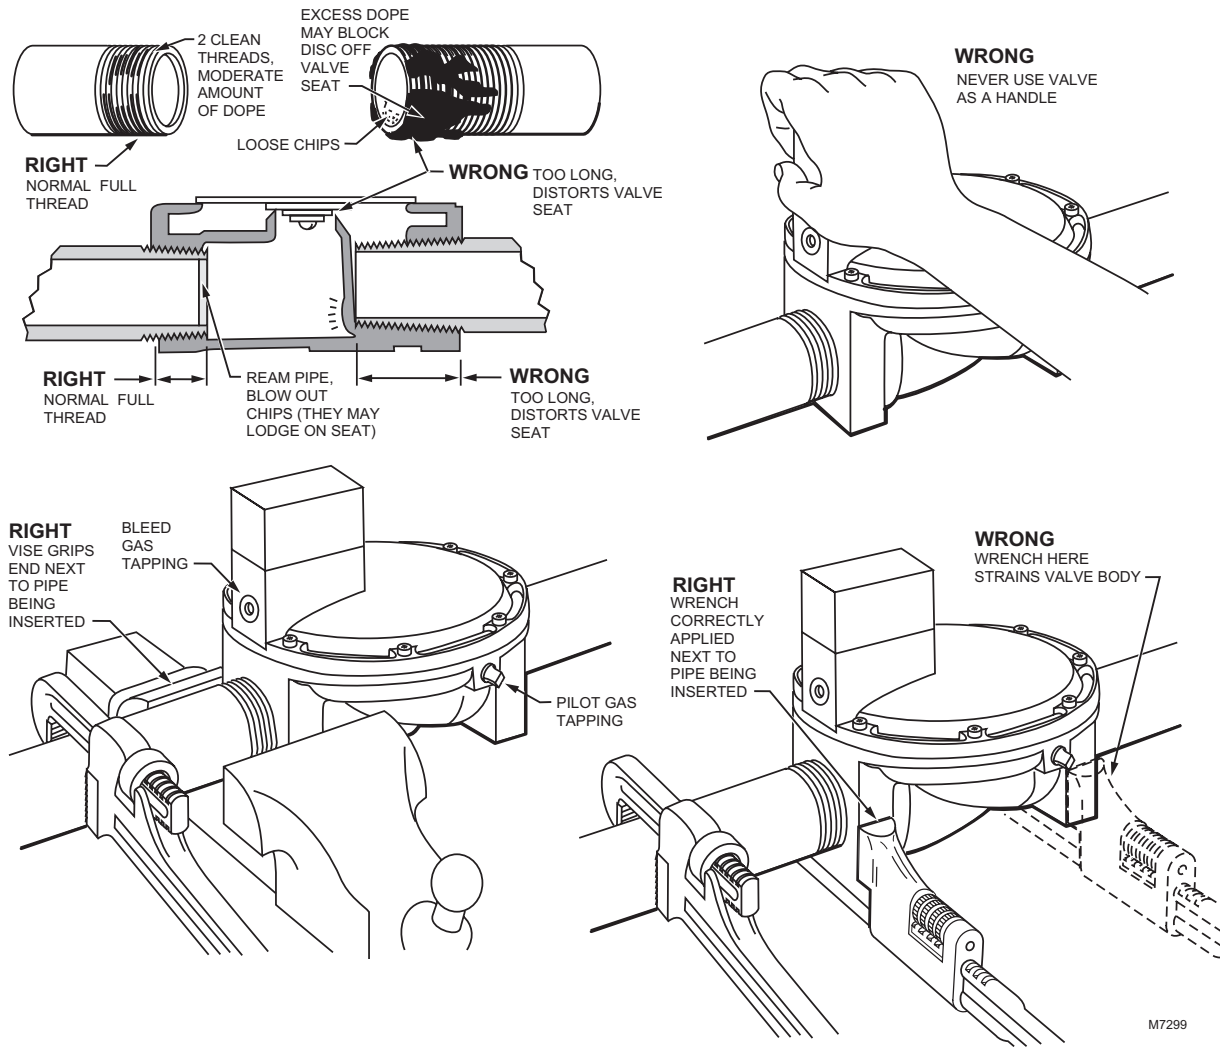

Fig. 3. Preparing piping and installing valve.
Prepare Piping and Install Valve (Fig. 3)
5. If required, connect the tubing to bleed gas tapping (Fig. 3 and 4) as described in step 3. Connect other end of bleed tubing to main burner or to outside atmosphere.